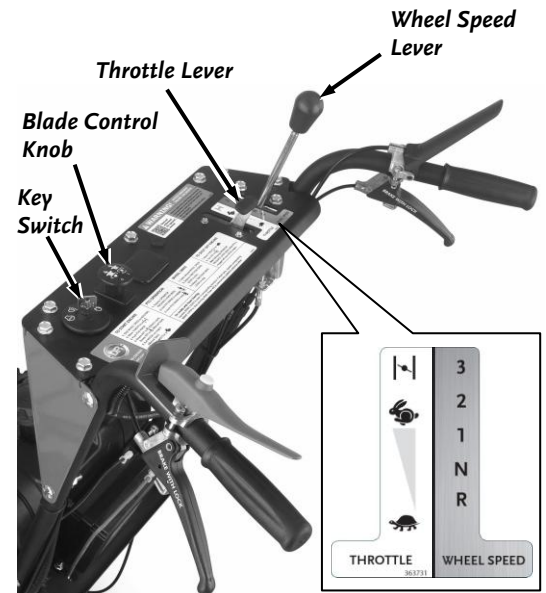

Figure 16
1. Move the Wheel Speed Lever to Neutral **N** (**Figure 16**).
3. Move the Throttle Lever to Choke  (to Fast  if the Engine is already warm) (**Figure 16**).
1. Move the Shift Lever to Neutral **N** (**Figure 16**).
- When the Engine starts, move the Throttle to the Fast  position (**Figure 16**).